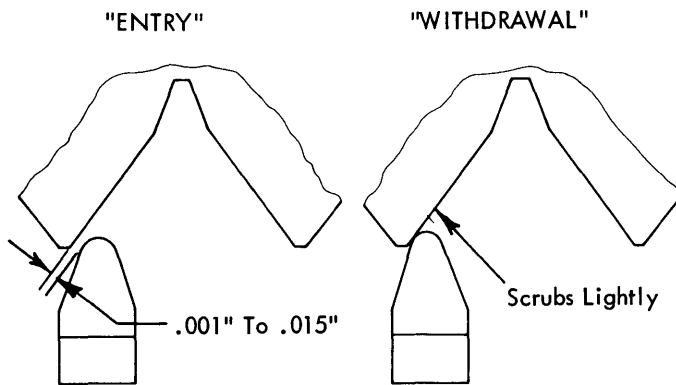

FIGURE 68a. Detent Timing Of The "M"
a. Machines Equipped With An Impression Control Lever - While slowly hand-cycling an upper case "M" (-5) remove the head play lightly in the positive direction (against the direction of rotation) and observe how the rotate detent ENTERS the detent notch. It should clear the side of the detent notch by .001" to .015" just as it enters (Fig. 68a). This entry clearance should cause the detent to scrub on the side of the detent notch during withdrawal when the machine is hand-cycled back to rest. During a powered operation the dynamics of the system causes the typehead to lag behind by as much as 12° during the restoring portion of the cycle, therefore this scrubbing on withdrawal is not felt in the system when the machine is operated under power.